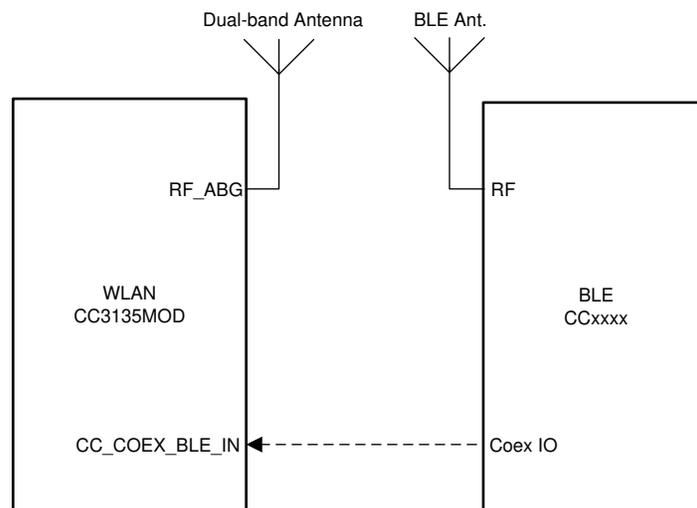

图 10-1. Dual-Antenna Coexistence Mode Block Diagram
- Dual-band Wi-Fi (see 图 10-1)
图 10-1 shows the dual antenna implementation of a complete Bluetooth® low energy and WLAN coexistence network with the WLAN operating on either a 2.4- or a 5 GHz band. Note in this implementation no Coex switch is required and only a single GPIO from the BLE device to the CC3135 device is required.